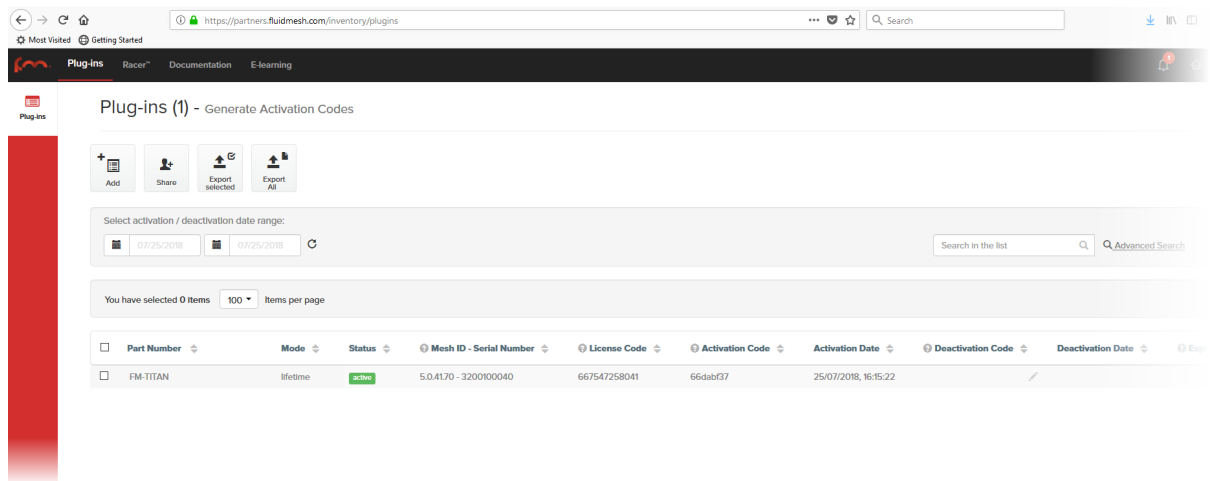

Figure 69. Partner Portal Plug-ins page (License code deactivation)
- The Plug-ins web page will be shown (Figure 69 \(page 160\)).